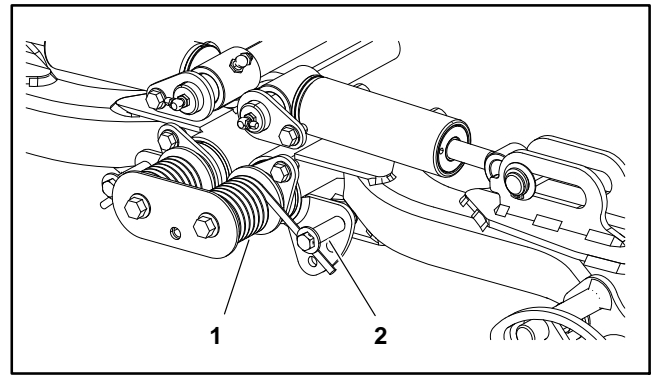

Figure 16
5. Note the position of the spring actuator prior to removal for proper assembly. Insert a tube or similar object onto the straight end of the counterbalance spring. Lift the spring end up and remove the spring actuator (cap screw, spacer, washer, and lock nut) (Fig. 16). Relieve all tension from the counterbalance spring.
3. Insert a tube or similar object onto the straight end of the counterbalance spring. Lift the spring end up and install the spring actuator (cap screw, spacer, washer, and lock nut) (Fig. 16). Rest end of counterbalance spring on spring actuator.